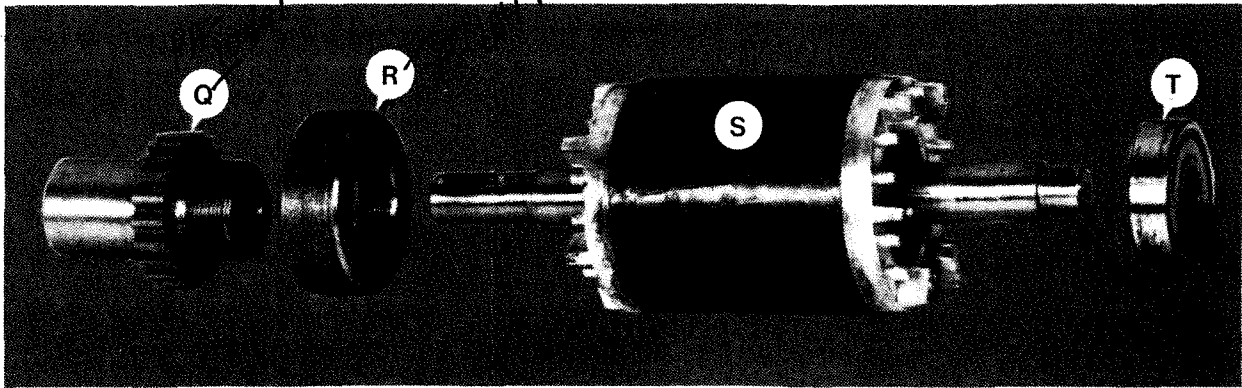

Figure 3.37 - Armature for Speed Change Motor
15. Press armature hub "Q" and bearing "T" from armature shaft "S", Figure 3.37 .
1. Turn brake adjusting collar "R", Figure 3.37, onto the armature hub and tighten the set screw.
6. Press armature hub "Q" and bearing "T" from armature shaft "S", Figure 3.37 .